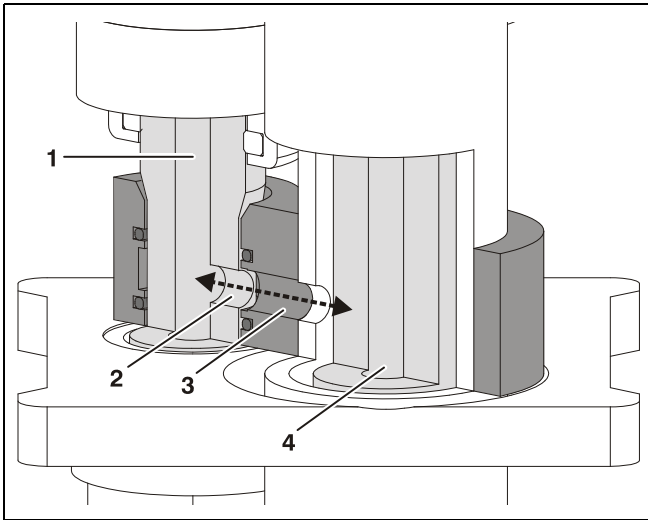

Figure 6-21. Cyl. #2/3 to Cylinder Joint Assembly
3. At the bottom end of the cylinder #2/3 assembly, locate the hole on the side of the tapered cylinder rod end on cylinder #2. This hole should be closely aligned with the hole passage inside the cylinder joint of cylinder #1 assembly when assembled. (See Figure 6-21.)